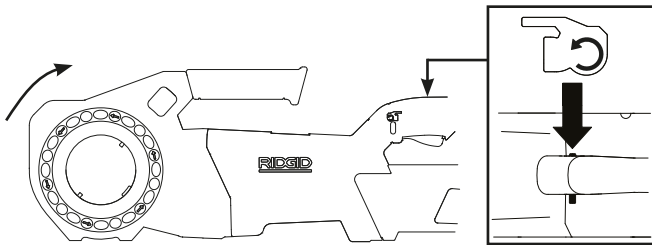

Figure 5A – FORWARD (Clockwise) Switch Position
- Move the Forward/Reverse slide switch to the Forward position. Depress and release the ON/OFF switch. Confirm that the power drive rotates in correct direction (*see Figure 5A*) and stops when releasing the switch.